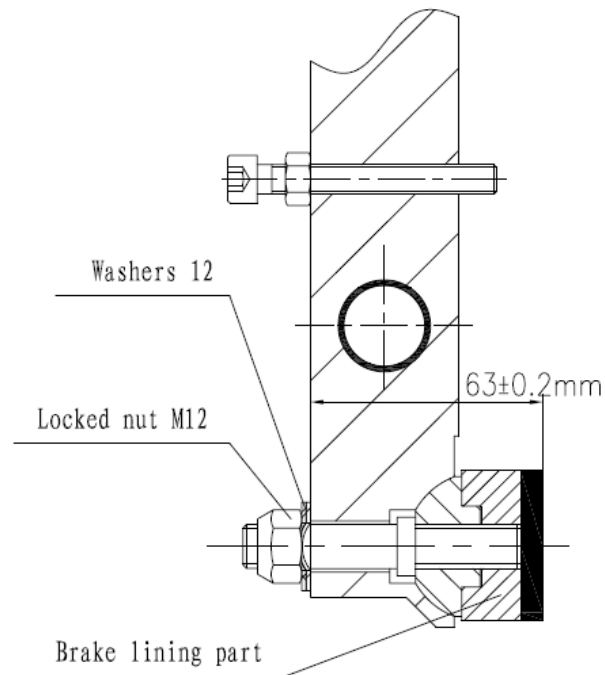

Figure 37 Emergency Brake Lining Replacement
- Place the Brake lining part into the hole of Brake arm part put two (2) washers 12 and tighten the bolt with locked nut M12, then the locked nut M12 must be unscrewed one half turn. **Note: Tighten the locked nut M12 to get the measurement $63\pm 0.2\text{mm}$. See Figure 37.**